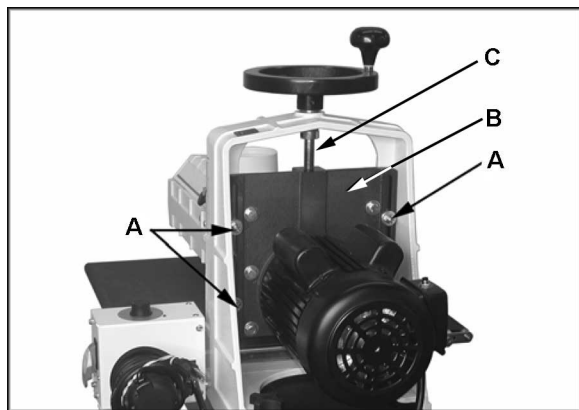

Figure 26
1. Tighten all four lock nuts (A, Figure 26) and then loosen them 1/8 to 1/4 turn. If the lock nuts are set too tight, height control will not operate easily. If the lock nuts are too loose, excessive deflection of the outboard end of the drum carriage will result.
2. Thoroughly lubricate the mating surfaces of the motor mount slide (B, Figure 26), and the height adjustment screw (C, Figure 26).